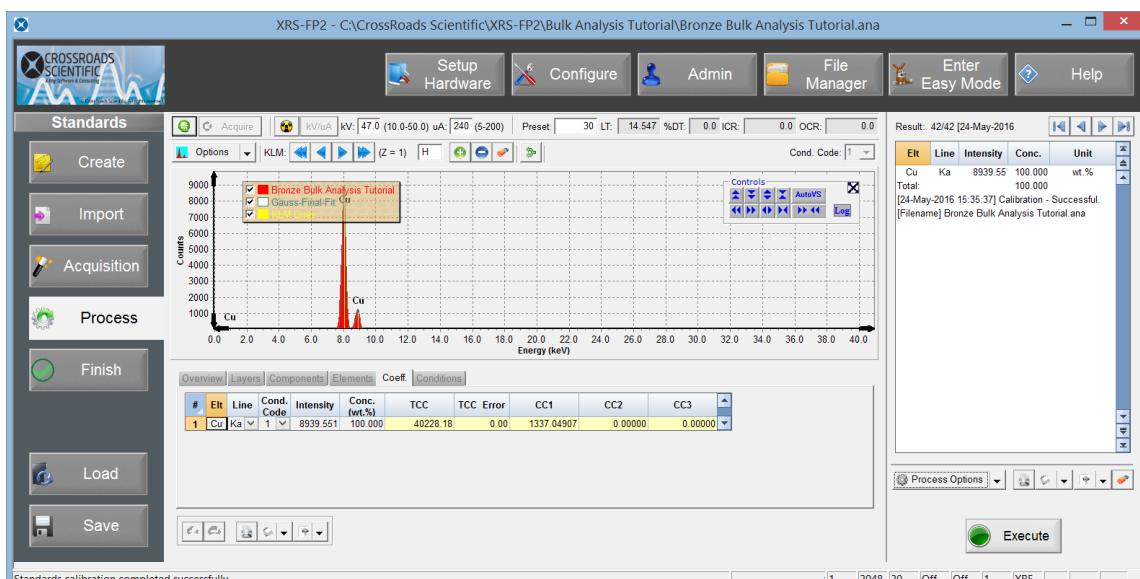

Figure 22. XRS-FP2 Standards Workflow – Process. Process the spectrum for the bulk Cu standard to generate the TCC.
10. Now select the **Process** button. Then select the Execute button in the R-hand panel to process the pure bulk Cu standard spectrum and generate a calibration coefficient (TCC). The Cu calibration coefficient, sensitivity factor, will now be listed under the “Coeff.” Tab (Fig. 22).